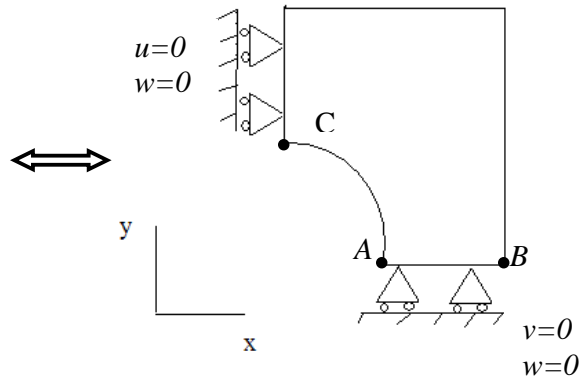

Figure 2b
Note that due to symmetry, only $1/4^{\text{th}}$ of the model may be simulated with appropriate boundary conditions (Fig. 2b). For all parts of your analysis, work with a quarter of the plate. To generate FEA meshes, use information provided in the appendices. Using MARC perform the analysis outlined below.
1. First, consider case (1): square plate with side $a = 40\text{ cm}$ having a circular hole in the center. Start out by creating a mesh of 4-node quadrilateral elements using Automesh as described in **Appendix 2D**. Apply the appropriate boundary conditions, and run the problem assuming plane stress. (Choose *plate.mud* as a file name when you save your model.) Record the values of vertical stress σ_{yy} at points A and B and horizontal stress σ_{xx} at point C shown in Fig. 2b.
4. Repeat steps 1-3 for cases (2) $a = 60\text{ cm}$ and (3) $a = 80\text{ cm}$.
5. For the results obtained using the original mesh of case (1), report the value of stress σ_{yy} at the Gauss quadrature point closest to point A (you can get this value from *plate_job1.out* file). Now, graphically display your results in MARC (choose *Results -> Open -> plate_job1.t16*. Select *Numerics* plot for σ_{22}). How does the value at the quadrature point compare with the stress shown at point A?
6. Use **Appendix 3D** to generate a 3D mesh based on your original 2D mesh from step (1). Perform 3D analysis (*job -> analysis dimension -> 3D; element types -> solid -> 7*). Present picture with distribution of σ_{yy} stress, compare its max value with the 2D plane stress prediction.